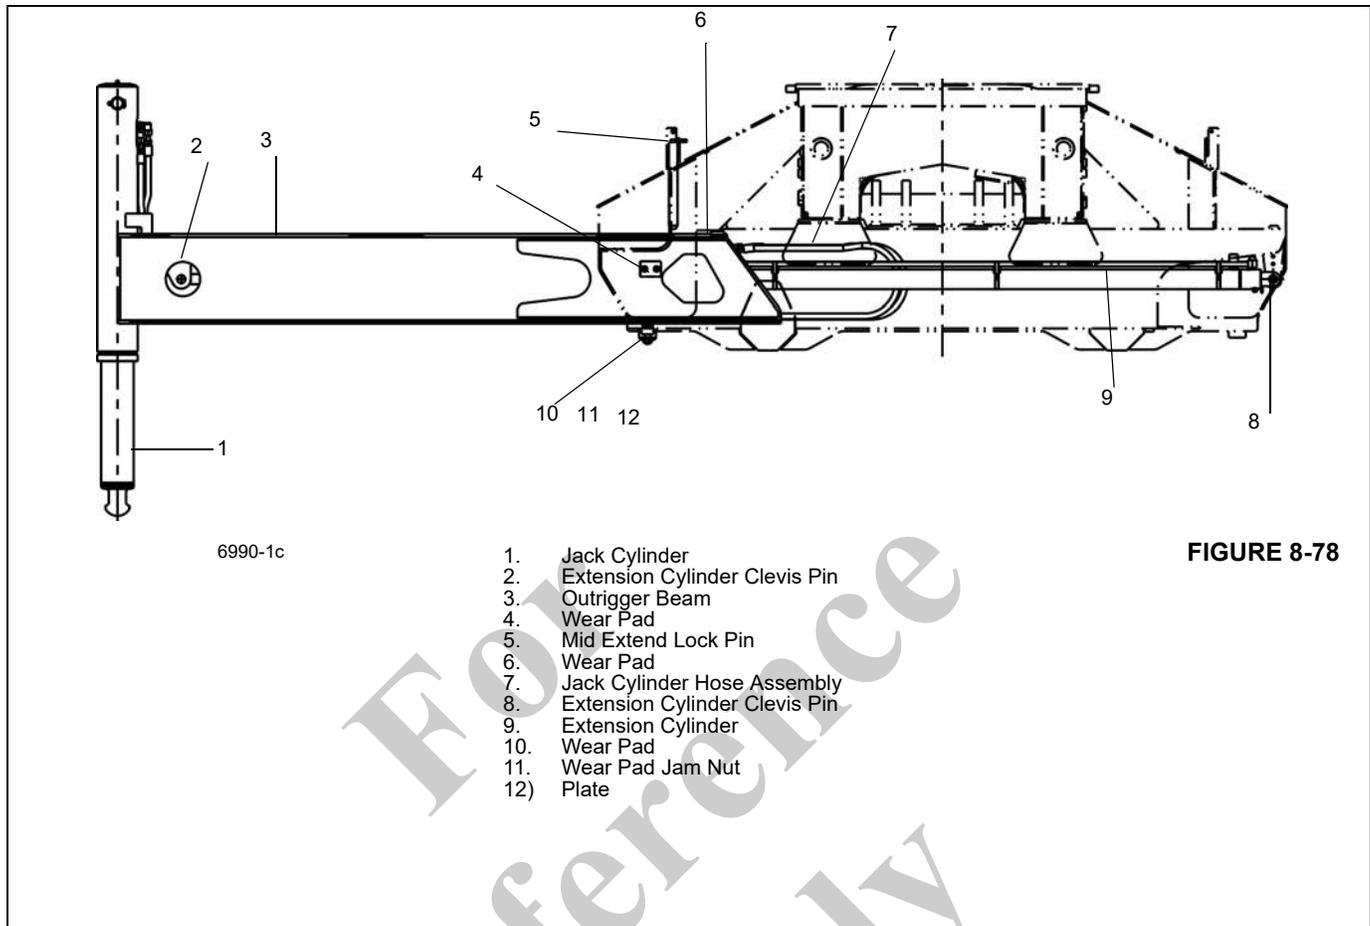

FIGURE 8-78
6. Loosen the wear pad jam nut on the bottom adjustable wear pad and back wear pad away from the beam. (Figure 8-78).